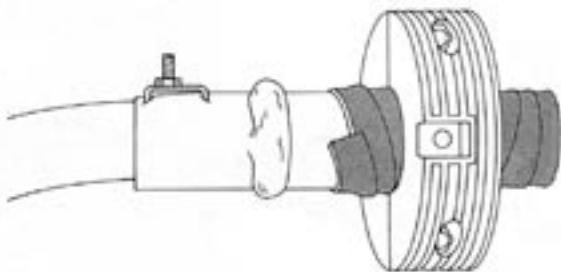

Figure 27 — Application of Moisture Barrier Sealant to Cable
9.10 After splice is completed, place a ring of Moisture Barrier sealant around the cable, in between the shield connector and End Plate, (Figure 27) cover Moisture Barrier sealant with LOCK-TAPE™ Sealant (supplied in kit) white side out. Figure 27.